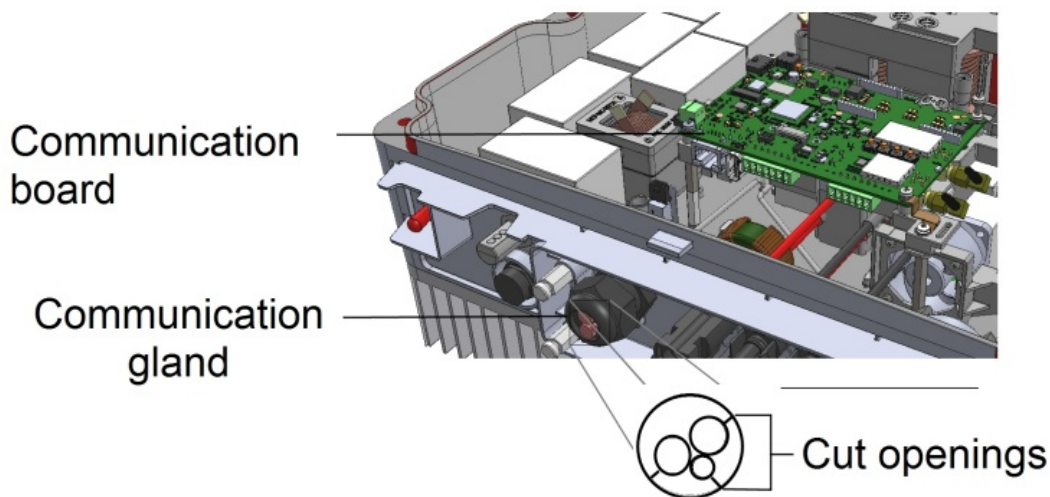

Figure 2: Communication gland and rubber fitting
- e. Connect the Ethernet connector to the RJ45 port on the communication board (see Figure 2).